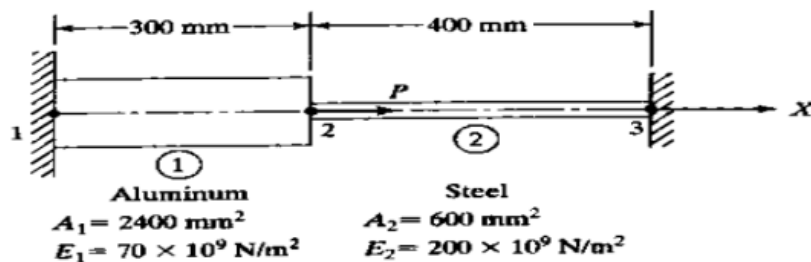

Figure 3 (a)
- 3 a) Determine the load nodal displacements for the bar shown in figure 3 (a) if axial load $P = 200 \times 10^3 \text{ N}$ is applied.